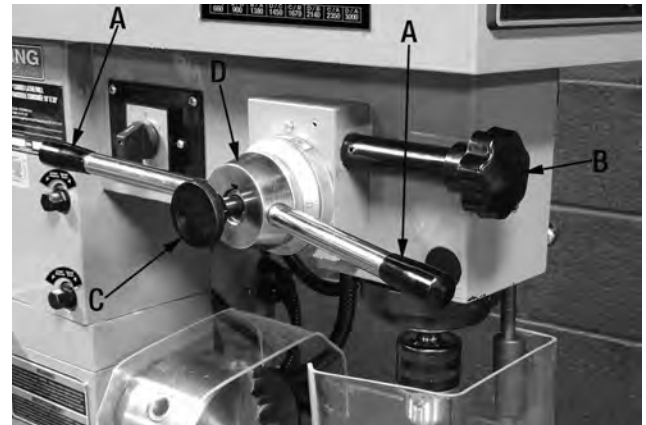

FIGURE 42
The up and down motion of the Mill/Drill spindle is controlled by the downfeed handles (A) Fig.42 just like a drill press. But unlike most drill presses, this machine is also supplied with a fine feed knob (B).
To use this feature, rotate the downfeed handles (A) Fig.42 while pressing the knob (C) in the center of the hub (D). The knob will engage and the spindle will no longer move using the downfeed handles. Rotating the fine feed knob (B) in a clockwise direction will cause the spindle to go down slowly. To disengage this feature, rotate the fine feed knob and pull on the knob in the center of the hub.